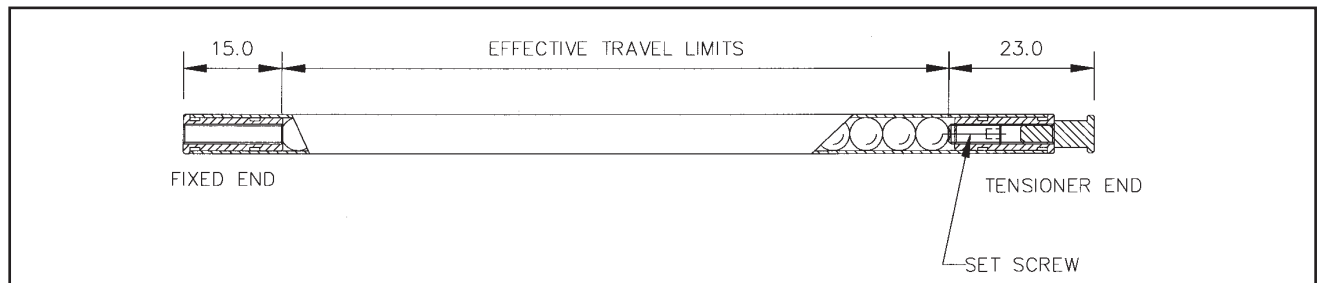

Figure 6.7 - The DMG Scale
- (A) Erroneous readings will occur if the DMG Digital Reader Head is allowed to travel beyond Effective Travel Limits. (Refer to Figure 6.7)
- (B) The pre-load on the balls are factory set via the set screw at the tensioner end. Do not tamper with or adjust the set screw as this will alter the calibration and accuracy specification of the scale and void the warranty.
- (C) When mounting scales in the vertical plane the tensioner end should be positioned at the top.